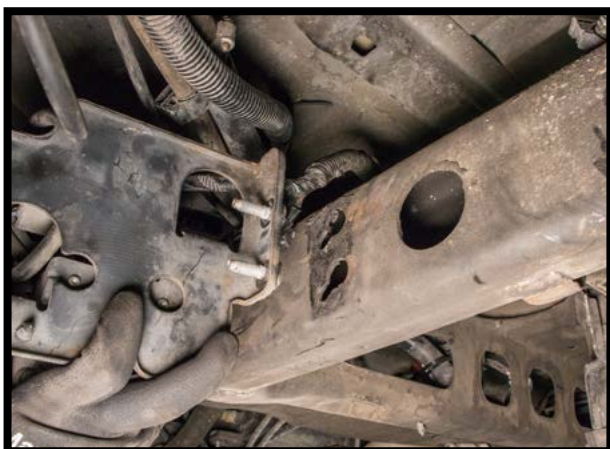

FIGURE 11, 12
11. FAR SCORRERE IL COMPRESSORE AD ARIA ALL'INDIETRO PER LIBERARE I FORI SUL TELAIO. (FIGURE 11, 12)